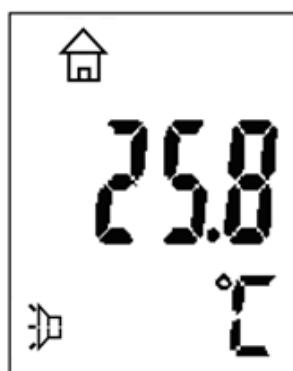

Figure 11
In ear or forehead mode hold START button ⑥ for 2 seconds the ambient or object temperature will be displayed on LCD. See figure 11.